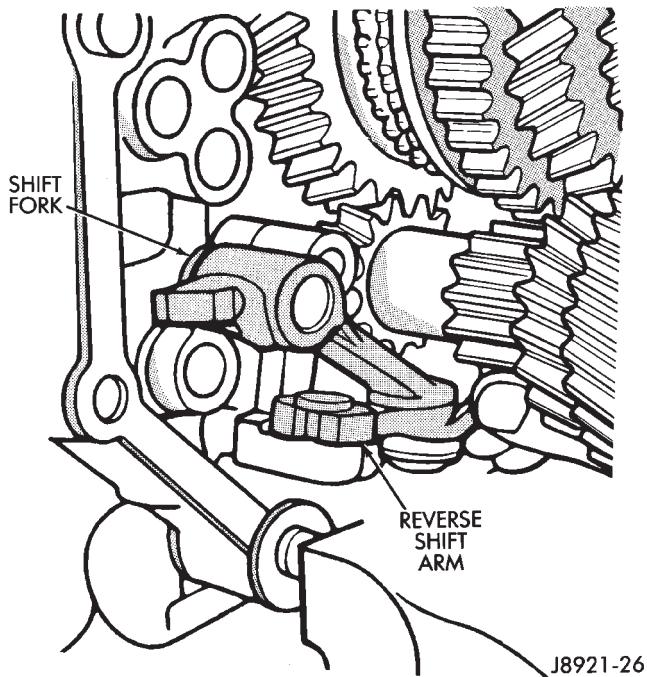

Fig. 26 Reverse Shift Arm Removal
(12) Remove reverse shift arm and fork (Fig. 26).